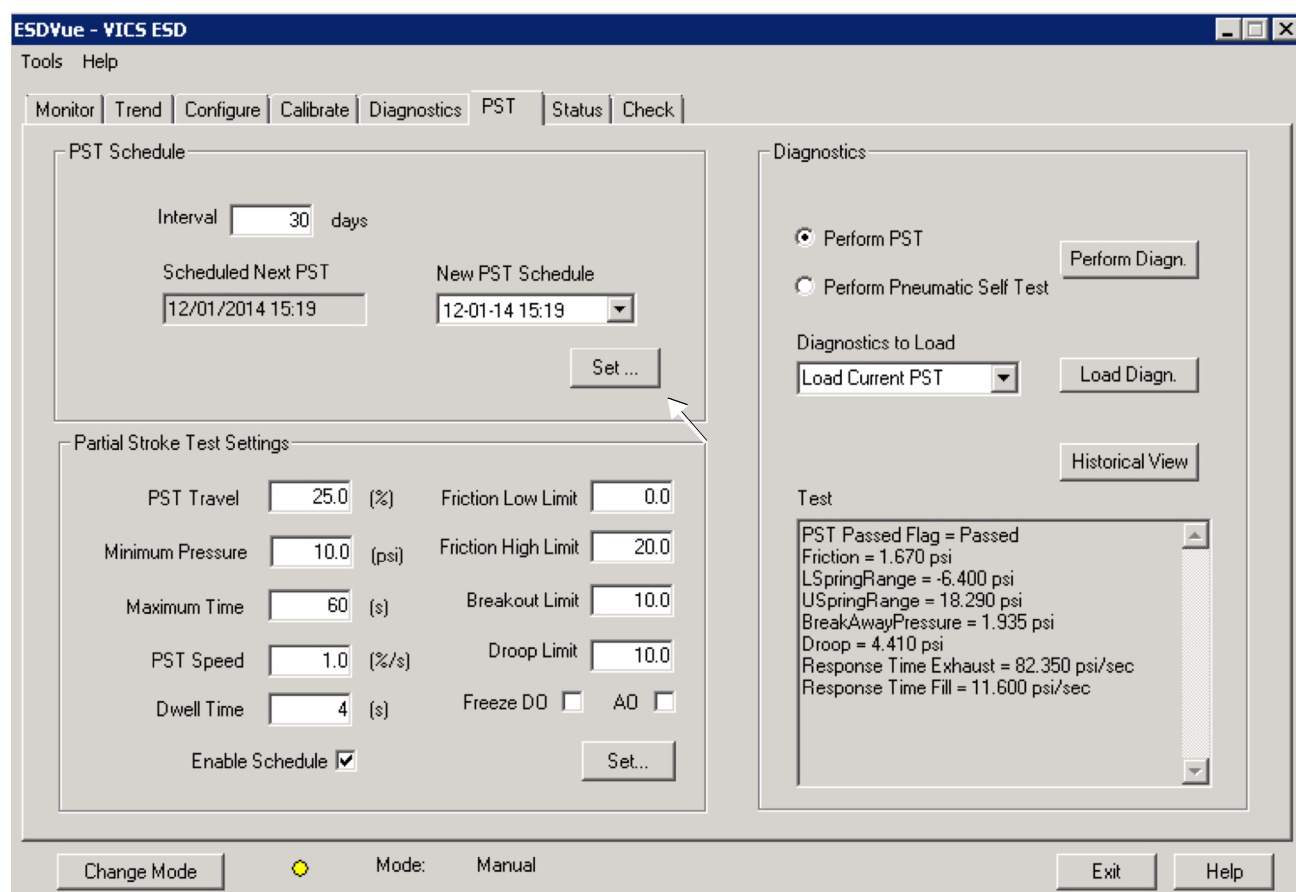

Figure 245 - Saving Schedule Changes
2. Click **Set** to save the changes (*Figure 245*).